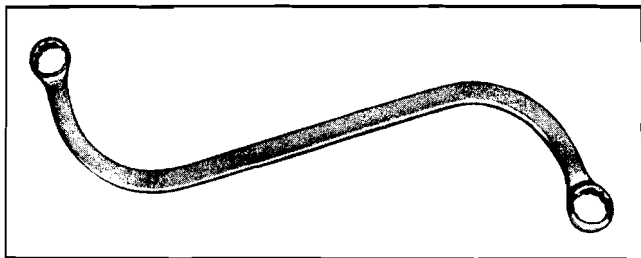

Fig. 6-62—Front Door Hinge Tool J-22729
- c. On "E" body styles, use tool J-22729 - 9/16" wrench (Figure 6-62).